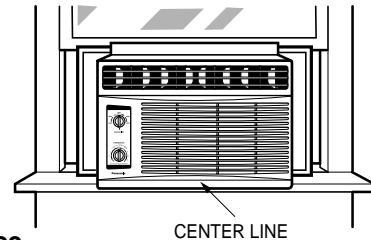

**Figure 28**
- a. Carefully lift the air conditioner and slide it into the open window. Make sure the bottom guide of the air conditioner drops into the notches of the L bracket. See Fig. 28.